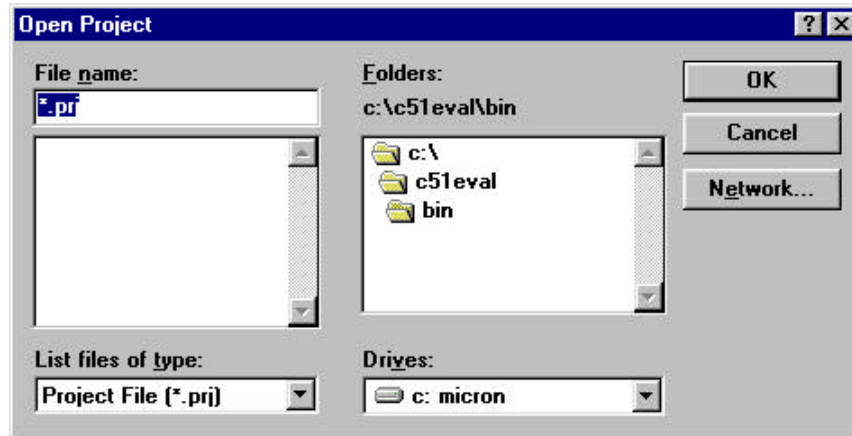
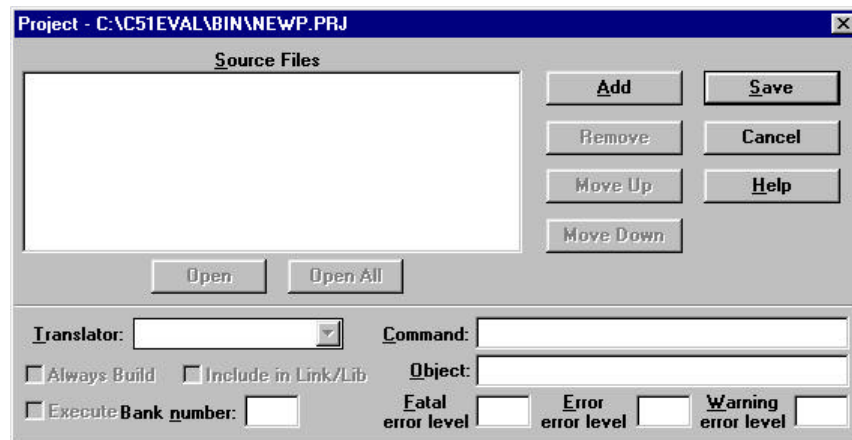

FIGURE 3a
FIGURE 3b
1. Open the Project menu and choose New Project. The window shown in Figure 3a appears except that \*.prj shows under *File name* instead of newp.prj.
2. Enter the name of the project you are creating. For this tutorial, enter the name *newp.prj* and press *OK*. *Newp.prj* will be entered under File name: as shown in Figure 3a. Figure 3b will open up.